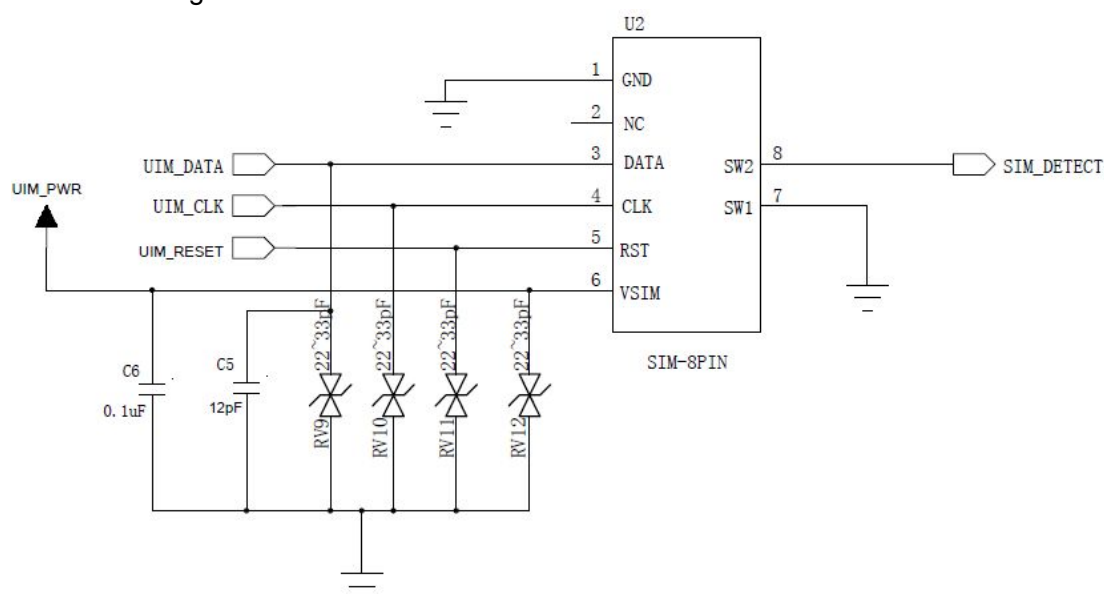

Figure 5-7 Reference Design of “Normally Closed” SIM Card Interface
- For “Normal closed” SIM card, as shown in the figure 5-7, SIM_DETECT signal line is connected to U2's Pin8 (SW2), and Pin7 (SW1) is connected to the ground. When the SIM card is not inserted, SW2 and SW1 short circuit, SW2 will be at low level. When the SIM card is inserted, SW2 and SW1 will be disconnected, SIM_DETECT level will be pulled up.